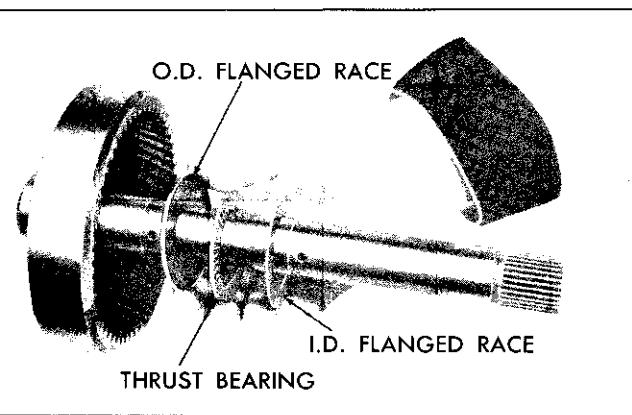

Fig. 7E-127 Installing Rear Internal Gear to Sun Gear Bearing and Races
7. Install output shaft into output carrier (Fig. 7E-129).